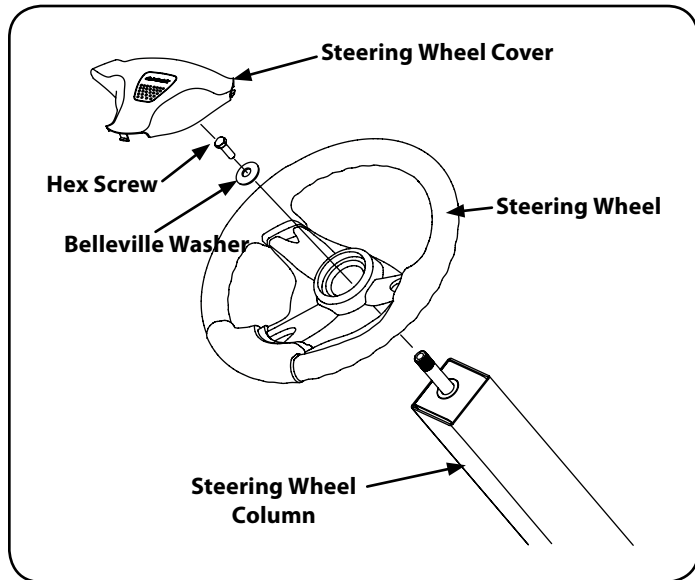

Figure 3
- Place the flat washer and belleville washer over the steering wheel and secure with the hex screw. See Figure 3.